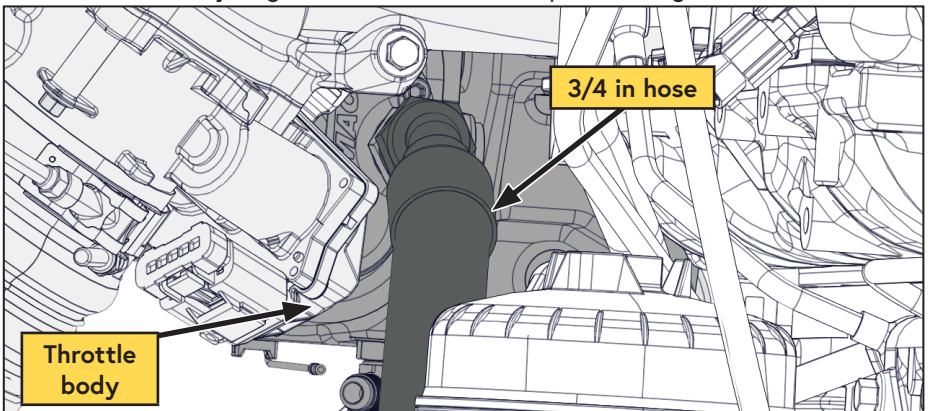

Figure 17 — Discharge hose orientation
- Orient the hose and the fitting to ensure the hose will not come in contact with the throttle body, engine, or other vehicle components (Figure 17).